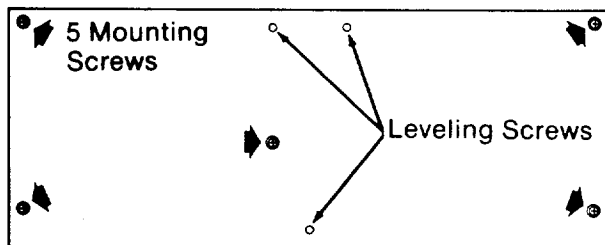

Fig. 55
- Tighten the *mounting screws* which pull down on the table making a given point lower. (Figure 55)
- Tighten the *leveling screws* which push up on the table making a given point higher. (Figure 55)